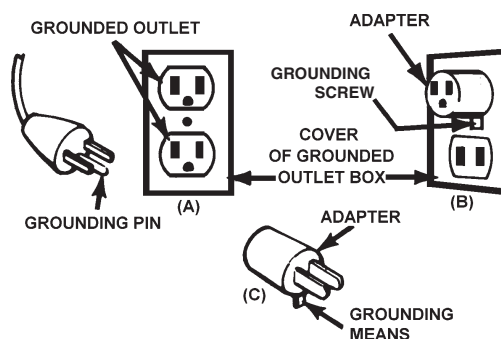

FIGURE 1 GROUNDING METHODS
Charger should be grounded to reduce the risk of electric shock. Charger is equipped with an electric cord having an equipment grounding conductor and a grounding plug. The plug must be plugged into an outlet that is properly installed and grounded in accordance with all local codes and ordinances. This battery charger is designed for use on a nominal 120 volt circuit and has a grounded plug that looks like the plug illustrated in FIGURE 1 (A). This plug should be used in a grounded outlet. The plug pins must fit the receptacle (outlet).
**ADAPTER:** A temporary adapter, as shown in FIGURE 1 (B) and (C), may be used to connect the charger plug to a two pole receptacle (outlet), as shown in FIGURE 1 (B).